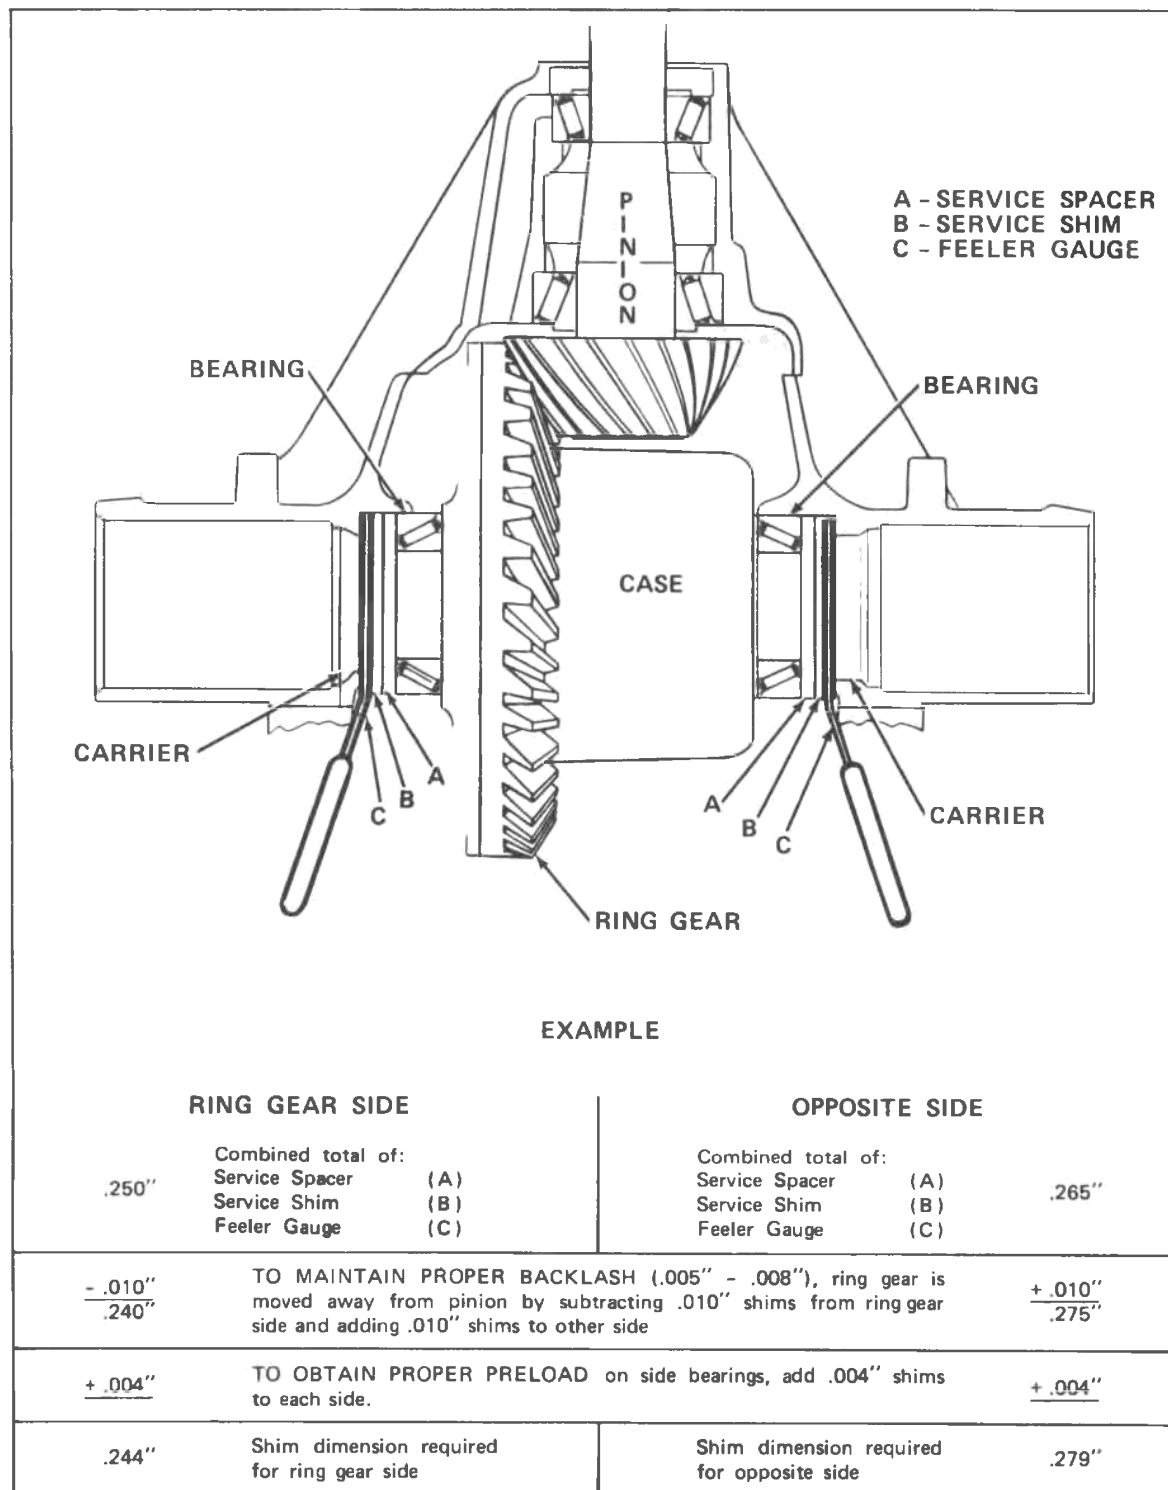

Fig. 4B-7--Determining Side Bearing Shim Requirements 7-1/2"
10. Mount a dial indicator on the carrier and check the backlash between the ring gear and pinion, as shown in Figure 4B-11. The backlash should be within the range of 0.005"-0.008". Check gear lash at four different equally spaced positions around the gear. Variation in readings should not exceed .002".
11. If variation in backlash readings exceeds .002", measure ring gear and case runout as shown in Figure 4B-12. Gear runout should not exceed .003", should runout exceed this limit check ring gear and case for deformation and/or foreign matter between case and gear.